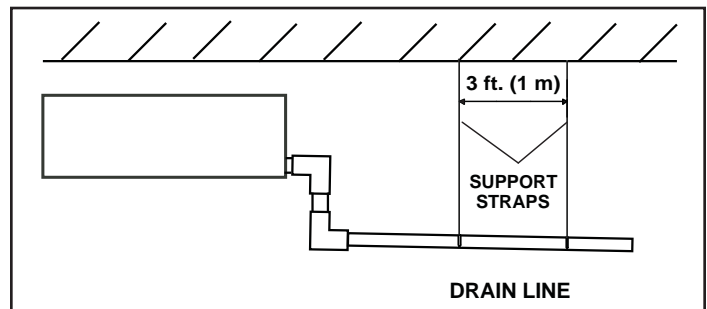

Figure 10. Condensate Drain Piping
2. See figure 10 for applications including a single unit and a single drain. In this case, ensure that the drain line is properly sloped (no less than 1/4 inch per foot) and condensate lines are routed to ensure moisture is drained away from the indoor unit.